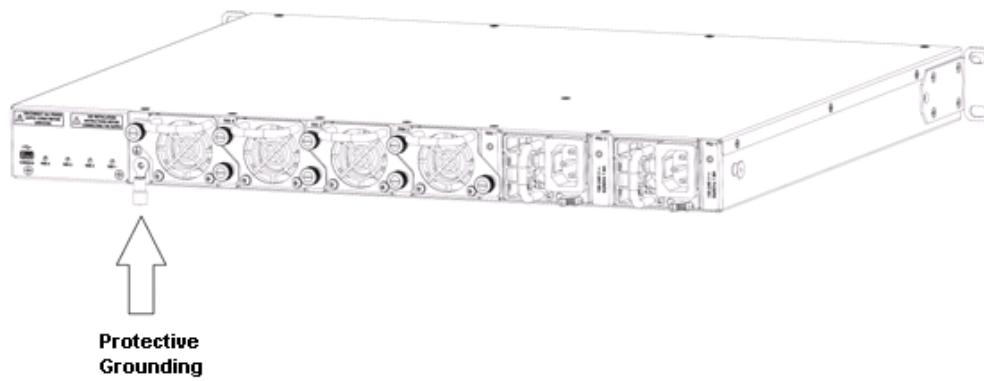

Figure 22 – Protective Grounding DM4770
Step 1	<ul style="list-style-type: none"> Locate the grounding point located in the back of the equipment, as shown in figure 22.